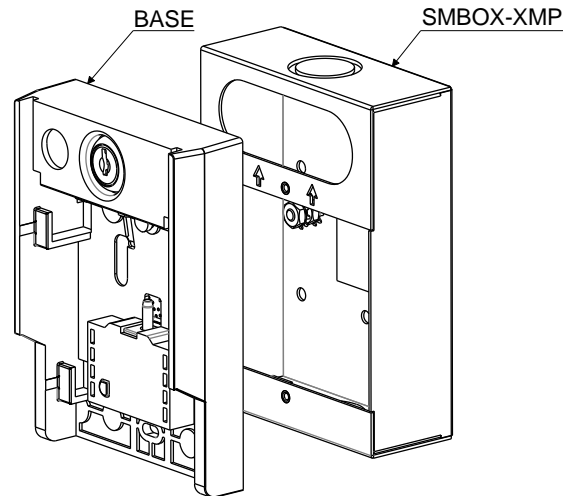

Figure 1
Mount the Base as shown on Figure 1 using the (2) screws provided. See the XMS-S/-D/-M installation instructions, Document ID A6V11439600, for programming, mounting, and wiring the Pull Station.